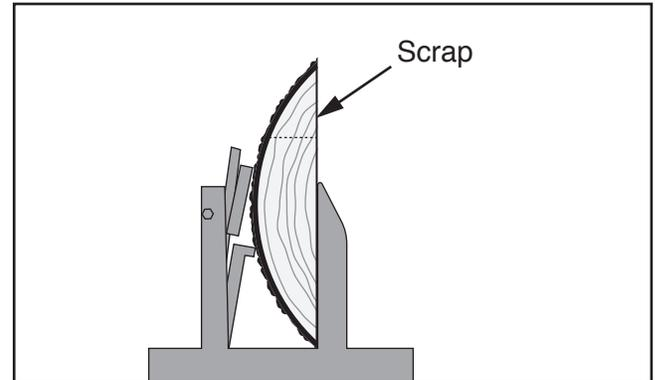

Figure 94. Scrap wood to be cut from slab.
18. Load slab from **Step 3** or **4** to track bed, using log supports to ensure slab is perpendicular to track (see **Figure 94**). Take care that log clamps are holding slab tight against supports.
19. Inspect end of slab and determine which portion is suitable for quartersawn lumber. Evaluate the width of the resulting lumber, as well as the angle of the grain. Cut slab where quartersawn quality wood begins (see **Figure 94**).